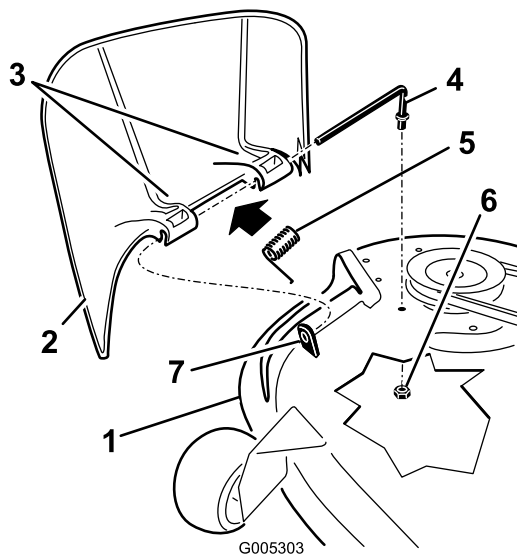

Figure 58
1. Remove the nut (3/8 inch) from the rod under the mower deck (Figure 58).
- Slide the rod out of the short standoff, spring, and the grass deflector (Figure 58).
- Replace the grass deflector (Figure 58).
- Slide rod through the second grass-deflector bracket (Figure 58).
- Secure the rear end of the rod into the mower deck with a nut (3/8 inch) as shown in Figure 58.